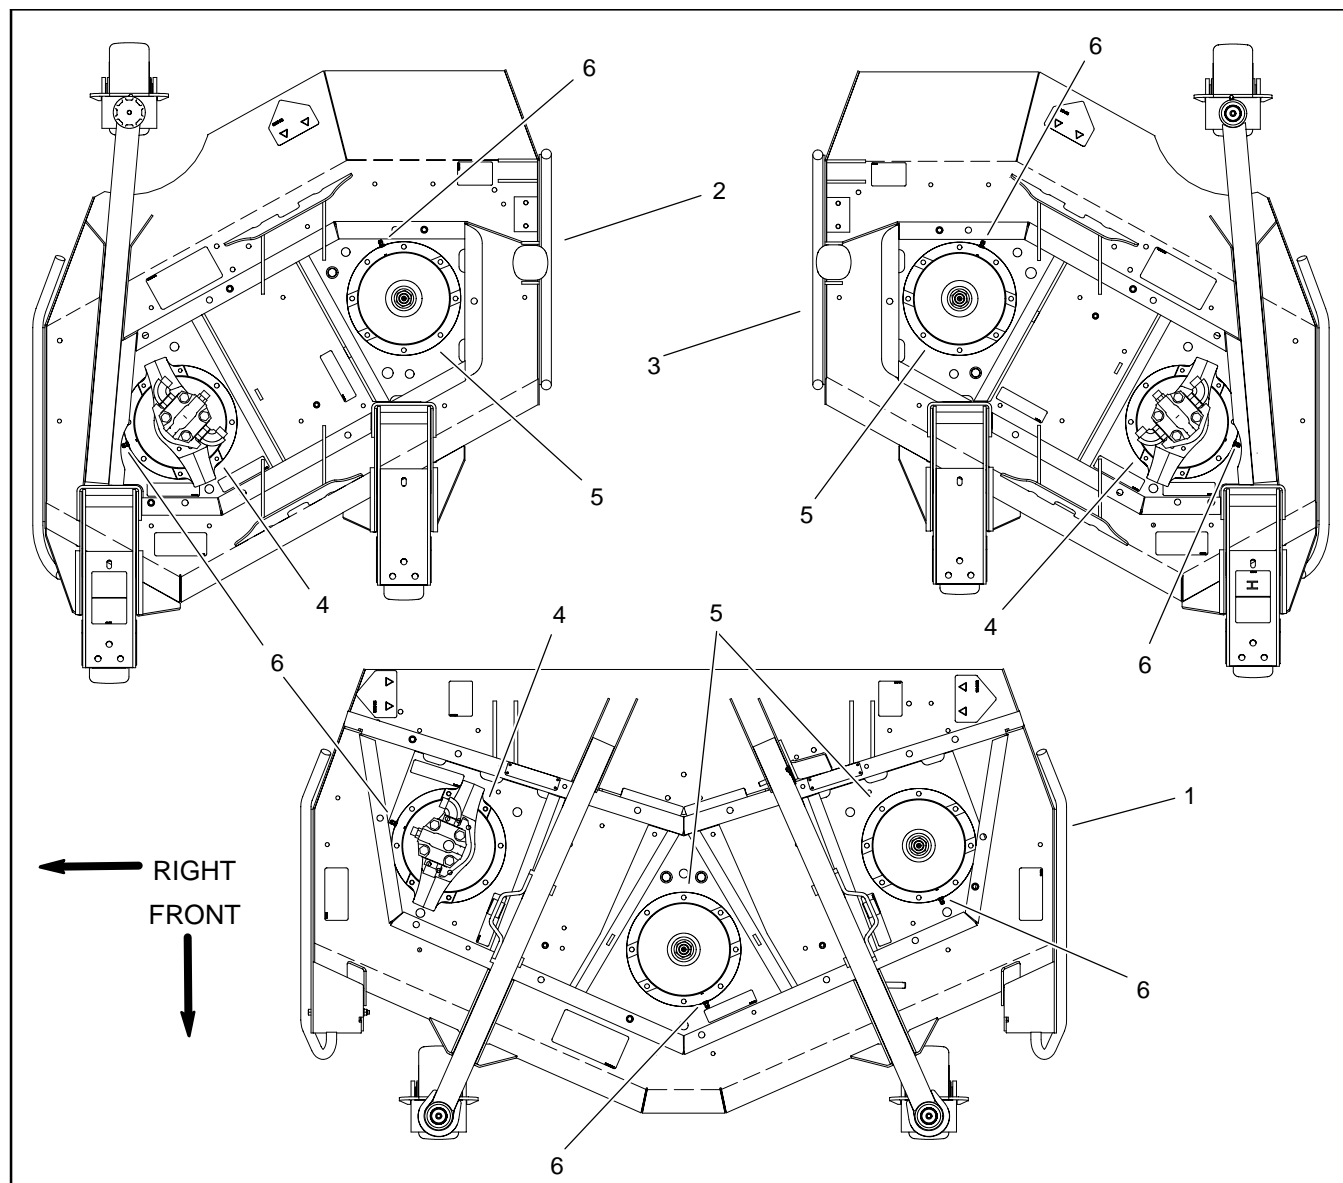

Figure 11
## Removal (Figs. 11 and 12)
## Installation (Figs. 11 and 12)
1. Position spindle on cutting deck noting orientation of grease fitting (Fig. 11). Secure spindle assembly to deck with removed fasteners.